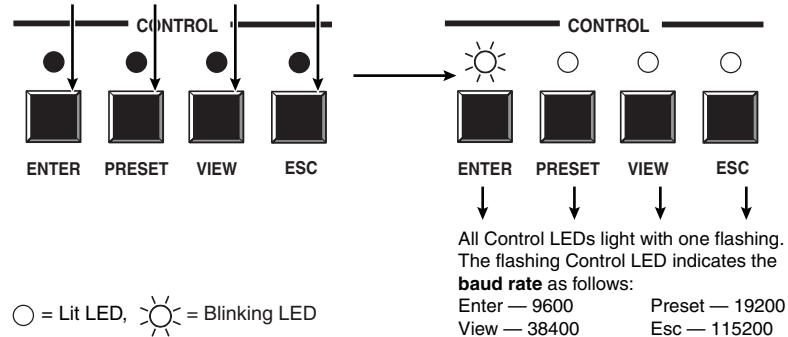

Figure 3-64 — Baud rate display
1. To enter *Serial Port Configuration* mode, simultaneously press and **hold all** Control buttons (Enter, Preset, View, and Esc) (figure 3-64).